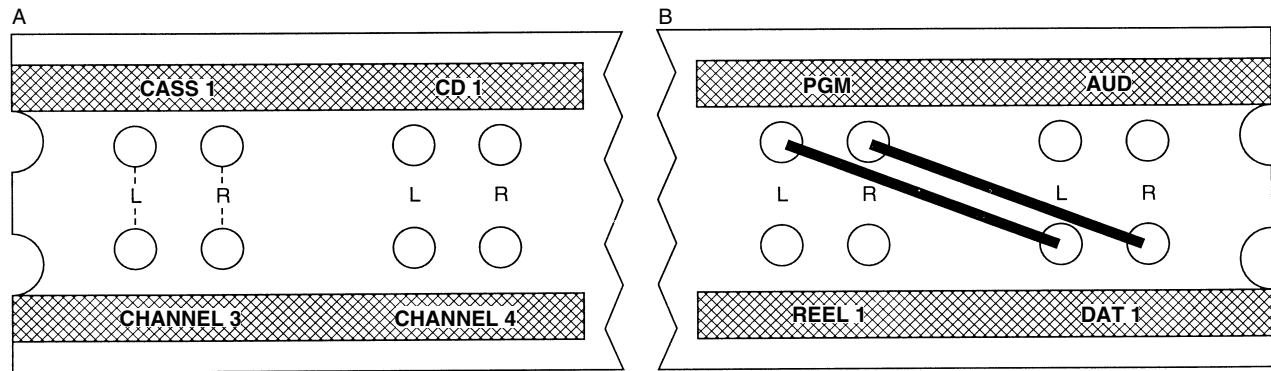

FIGURE 8.10 A portion of a patch panel that is “normalled” (A) and a portion of a patch panel that has been “patched” (B).
Figure 8.10 shows a portion of a patch bay (A) in which a cassette recorder and CD player are linked to two channels on an audio console. With no patch cord put into the panel, CASS 1 is linked to Channel 3 and CD 1 is linked to Channel 4. In patch panels, the top row is internally wired to the bottom row, and the audio signal flows in that manner. When it is unpatched like this, it's known as a "normalled" condition. Figure 8.10 shows another portion of a patch panel (B) that links the output of the audio console to audio recorders. When normalled, the PGM (program) output goes to REEL 1, and the AUD (audition) output goes to DAT 1. The PGM signal could be sent to DAT 1 (as shown) by putting a patch cord from the PGM position on the top row to the DAT 1 position on the bottom row. Now the signal flow has been changed, and that's the purpose of a patch panel—to allow flexibility in configuring the production studio. In this way the audio signals